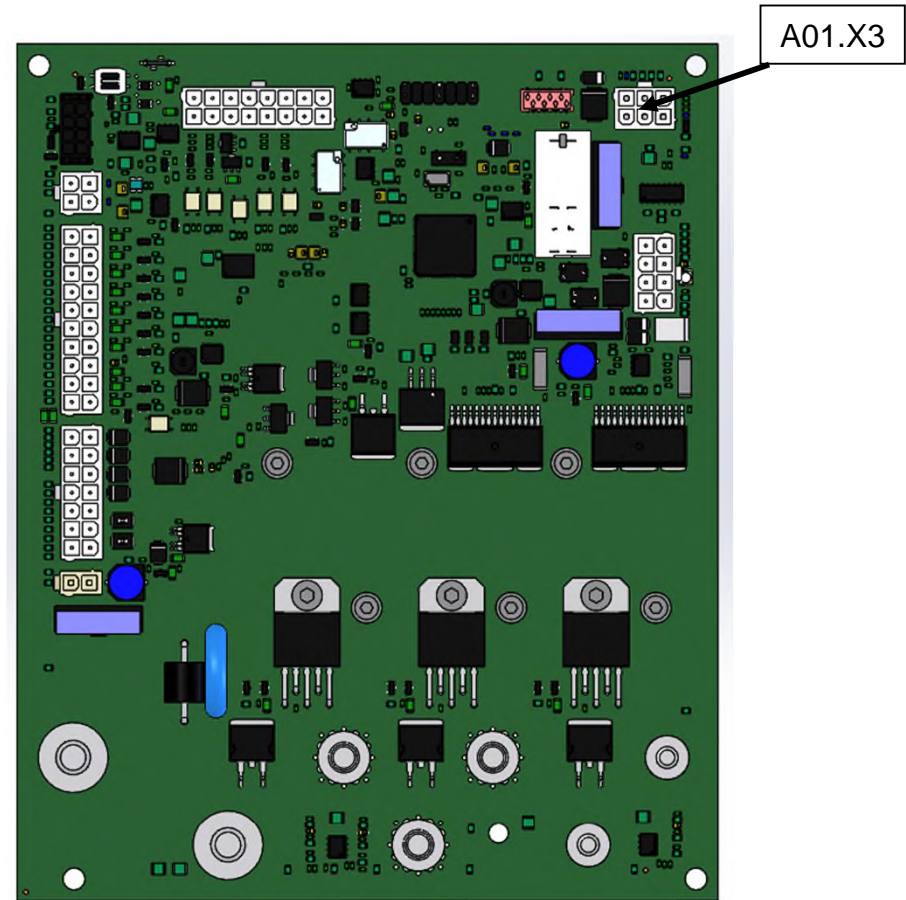

Figure 2.2
- At first, connect diagnostics plug 0300 6790 to plug A1.X3 of the control electronics (Fig. 2.2). This is necessary for changing and saving parameters.